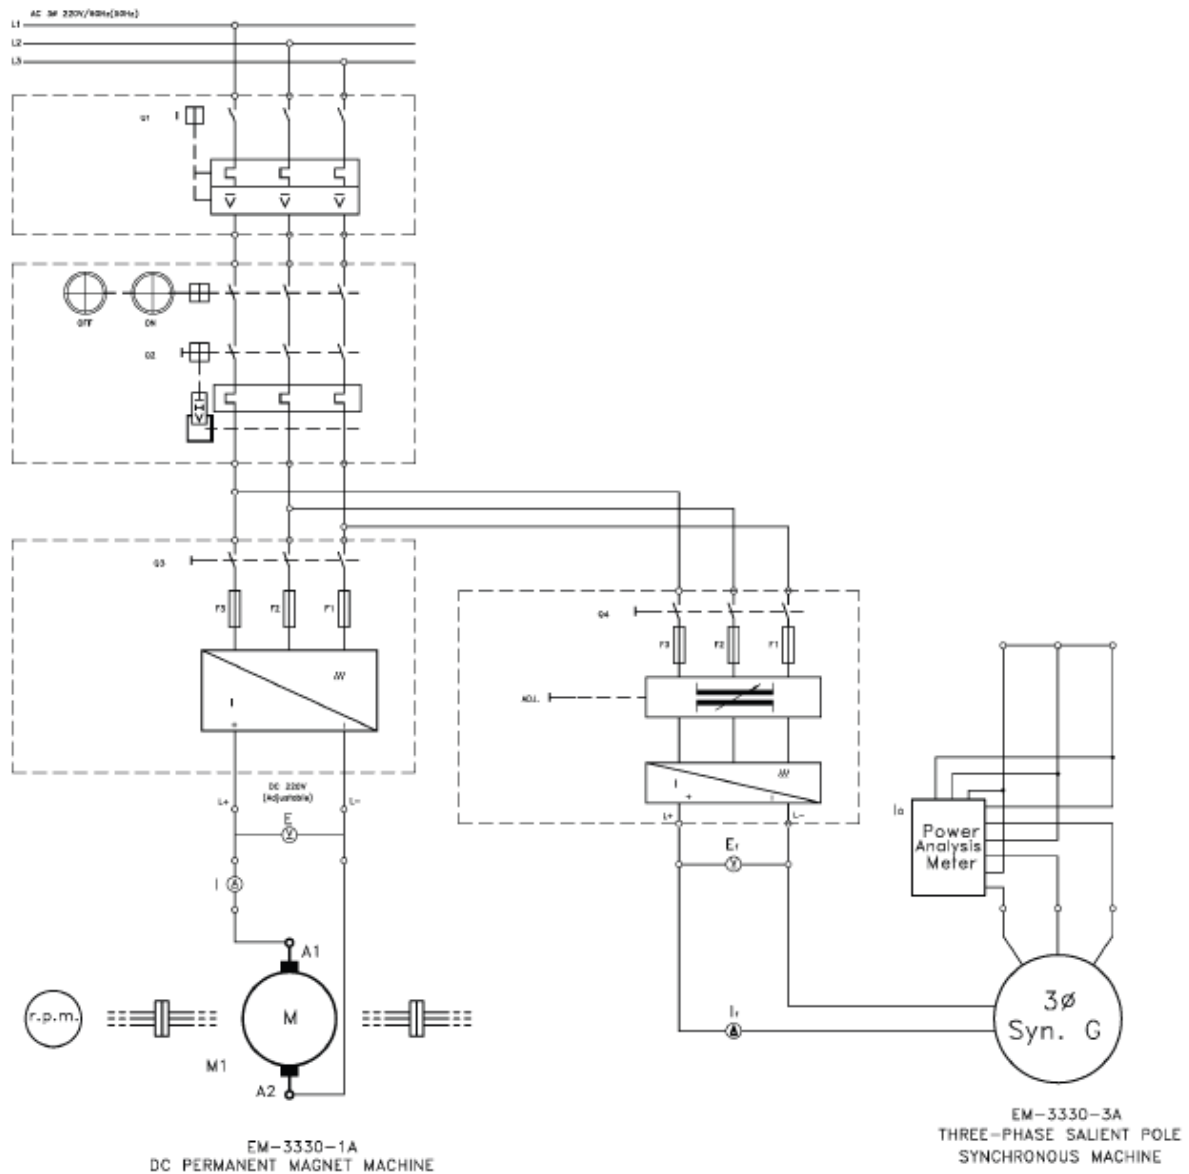
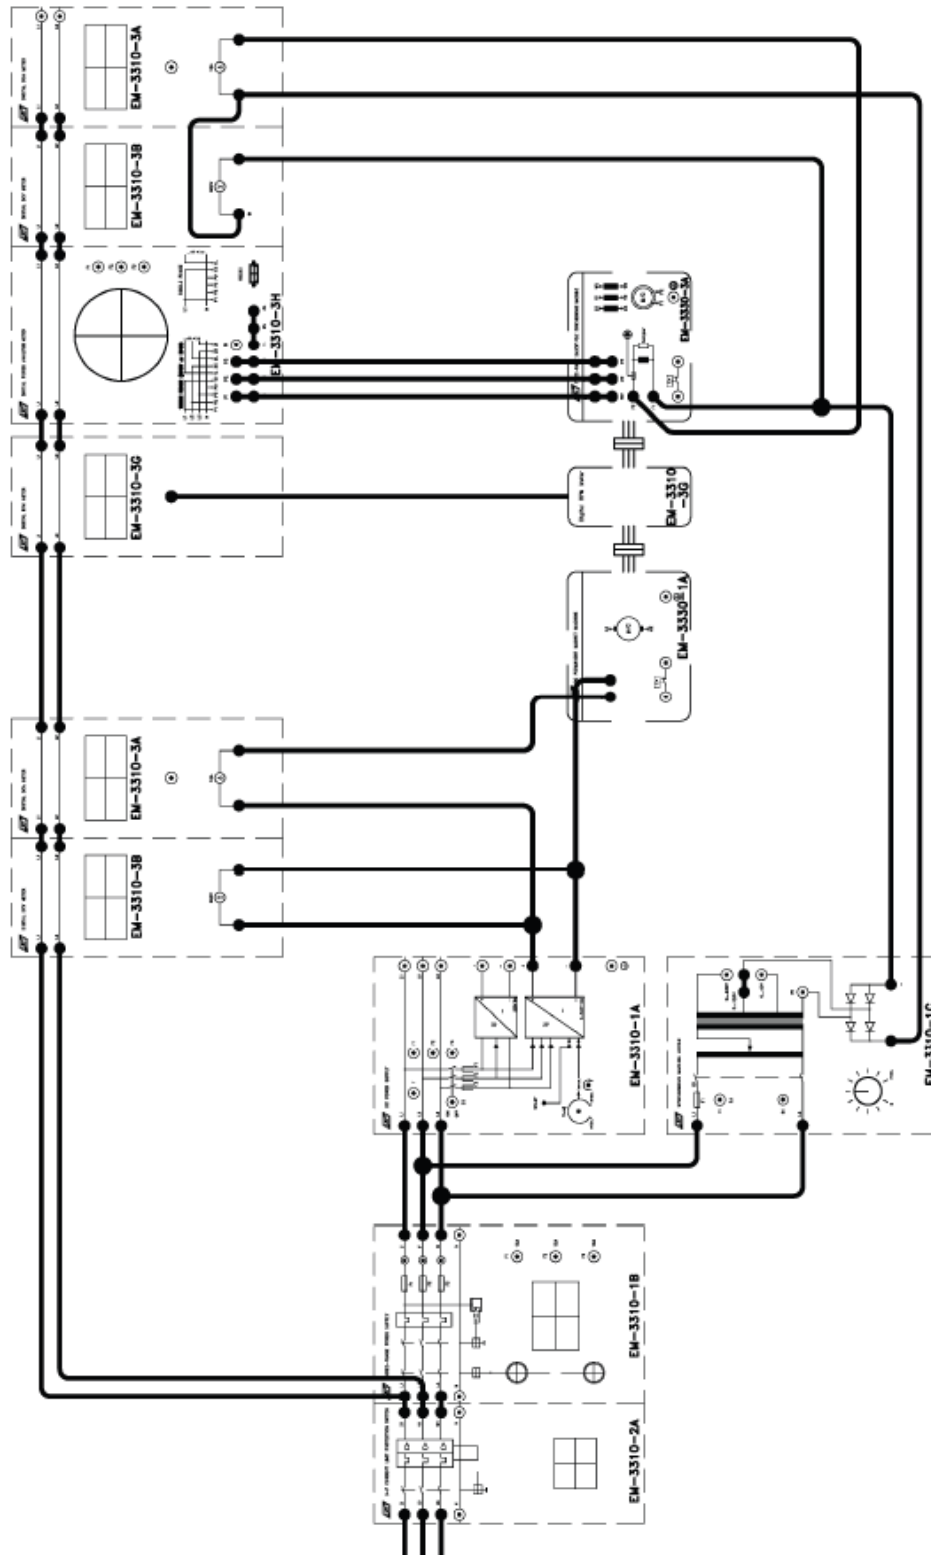

Fig. 15-3-1 Circuit diagram for short-circuit test
Fig. 15-3-2 Connection diagram for short-circuit test
1. Place the DC Permanent-magnet Machine, Three-phase Salient Pole Synchronous Machine, and Digital RPM Meter on the Laboratory Table. Mechanically couple the DC Permanent-Magnet (PM) Machine to the Three-phase Salient Pole Synchronous Machine and the Digital RPM Meter using Couplings. Securely lock the Machine Bases together using the delta screws. Install the Coupling Guards and the Shaft End Guard.
2. Install the required Modules in the Experimental Frame. Construct the circuit in accordance with the circuit diagram in Fig. 15-3-1 and the connection diagram in Fig. 15-3-2. Have the instructor check your completed circuit. The synchronous generator operates in delta.